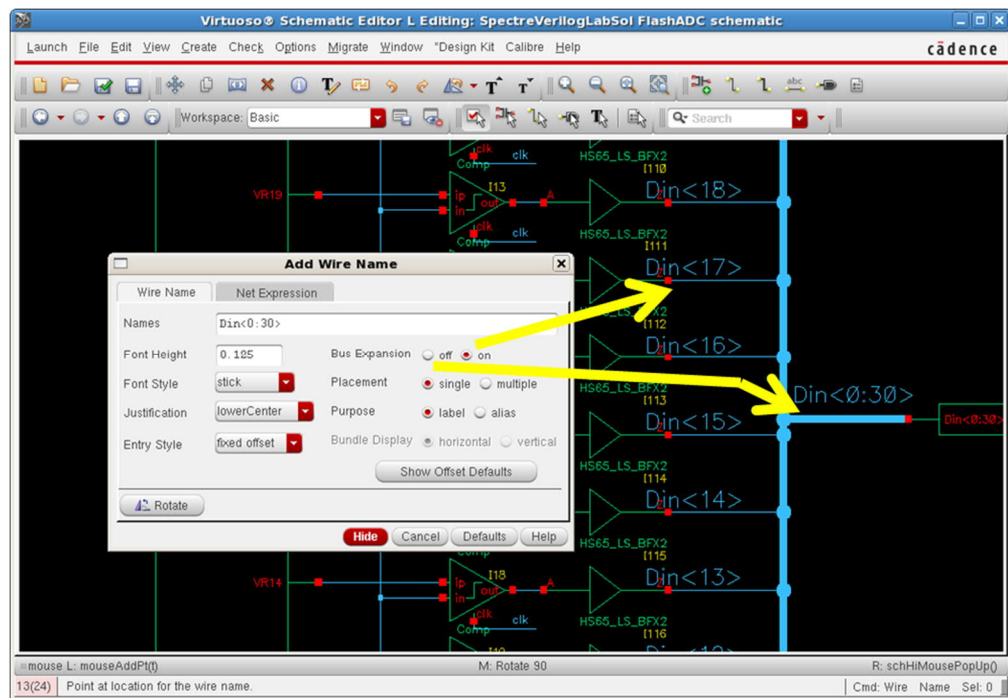

Figure 4. Illustration of bus notation.
- b. To reduce the complexity of the routing of digital signals, bus notation such as **Dout<0:30>** can be used. Select *Create > Wire Name....* In the pop-up **Add Wire Name** window shown in Figure 4, bus names are added when **Bus Expansion** is **off**, and individual wire names are added when **Bus Expansion** is **on**. You can also place all individual wire names on the respective wires by selecting **Placement** as **multiple**. Choose **Bus Expansion** **on** and **Placement** **multiple** to quickly assign **Dout<30>**, **Dout<29> ... Dout<0>** to the respective nets.